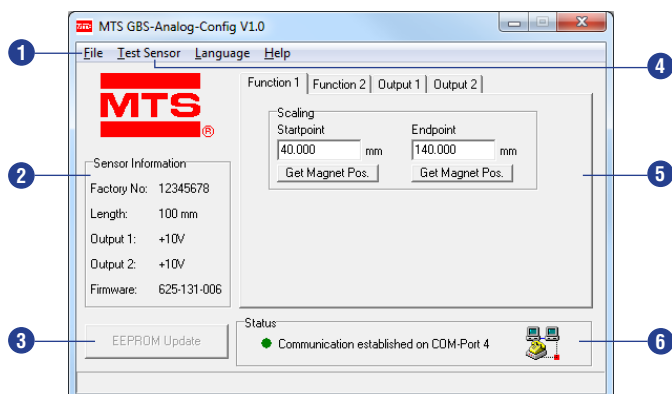

Fig. 34: Example of user interface
After starting the program, the user interface of the connected sensor with its adjustable parameters will open (Fig. 34).
- 1 In the **File** menu the sensor configuration can be saved on hard disk, printed out or loaded into the sensor⁷. Moreover, this menu permits returning to the factory setting (Fig. 34).
- 2 **Sensor Information** contains the invariable sensor parameters, which were read in automatically when connecting the sensor. (Fig. 34).
- 3 Any changes which were made are shown with dark background. By clicking on **EEPROM Update** the altered parameters are stored in the sensor permanently. Subsequently, the stored values are displayed again with a white background (Fig. 34).
- 5 The control tabs of mainframe permit allocation of functions to the sensor outputs. The measuring range of the functions will be determined in **Scaling** (Fig. 34).
- 6 **Status** indicates that the sensor is connected successfully (Fig. 34).